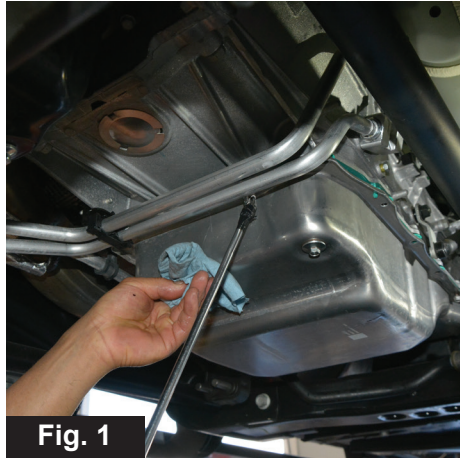

Fig. 1
3. Remove all transmission pan bolts but one in the front (**Fig. 1**).